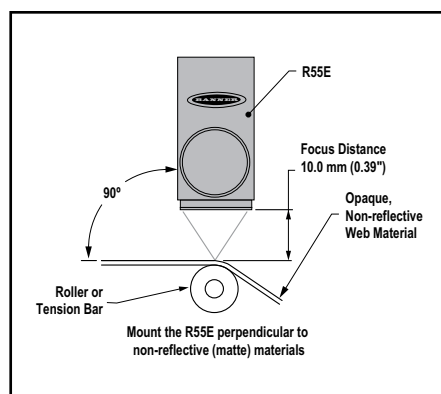

Figure 7. Mounting for sensing opaque non-reflective materials
The R55E focus is located at 10 mm (0.39") ahead of the lens surface. The R55E must be mounted within 3 mm (0.12") of this distance from the surface of the material for reliable sensing (Figure 7).
1. Whenever possible, it is a good idea to sense a web material at a location where it passes over a tension bar or roller, to minimize the adverse effects of web "flutter" or sag (Figure 7).